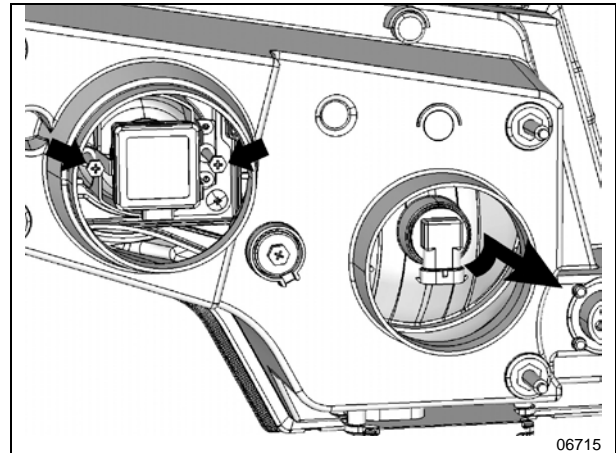

FIGURE 61: HEADLIGHT ASSEMBLY REAR VIEW
5. HALOGEN: turn the bulb base counterclockwise. XENON: Unscrew the Phillips head screws indicated by arrows, pull the retainer and bulb out (FIGURE 61).